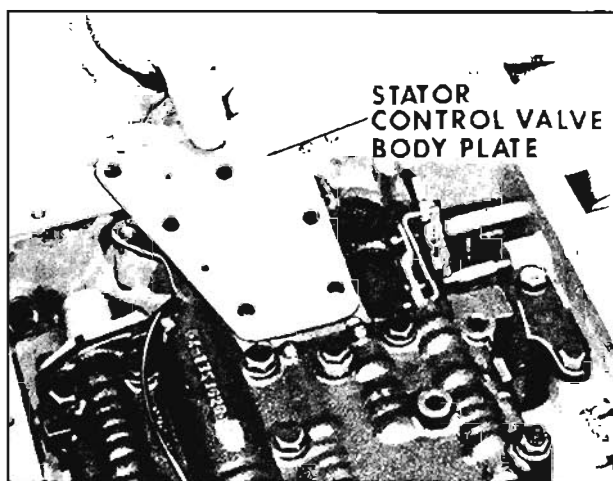

Fig. 6-266 Removing Stator Control Valve Body Plate
7. Remove stator control valve body plate. (Fig. 6-266)